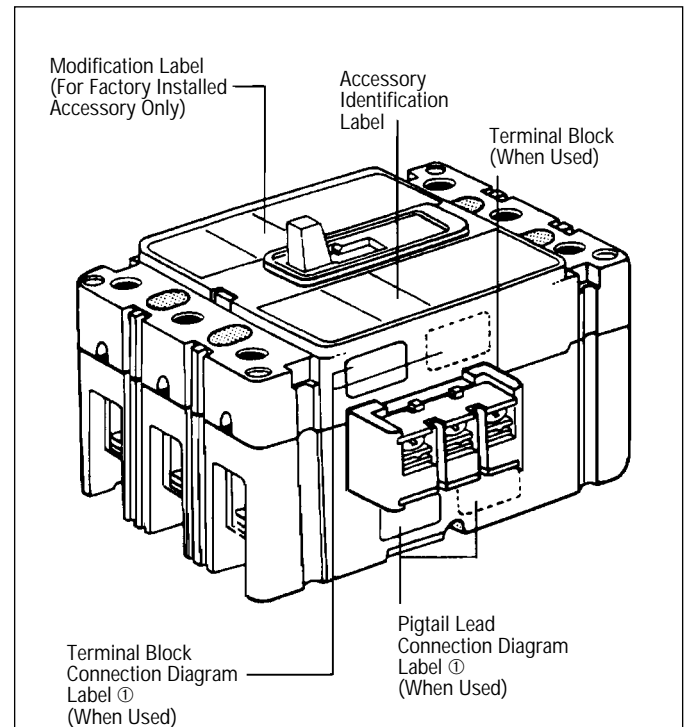

Figure 2-9 Preferred Mounting Locations for Accessory Nameplate Labels
- 2-10. Place labels supplied with kit on circuit breaker (see Figure 2-9).